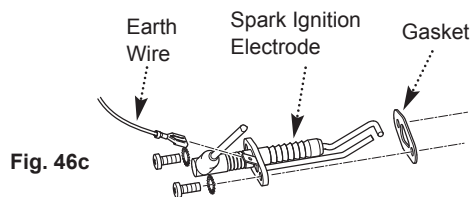

Fig. 46c
11. Remove the ignition electrode (Fig. 46c) and check the condition. Replace if necessary.